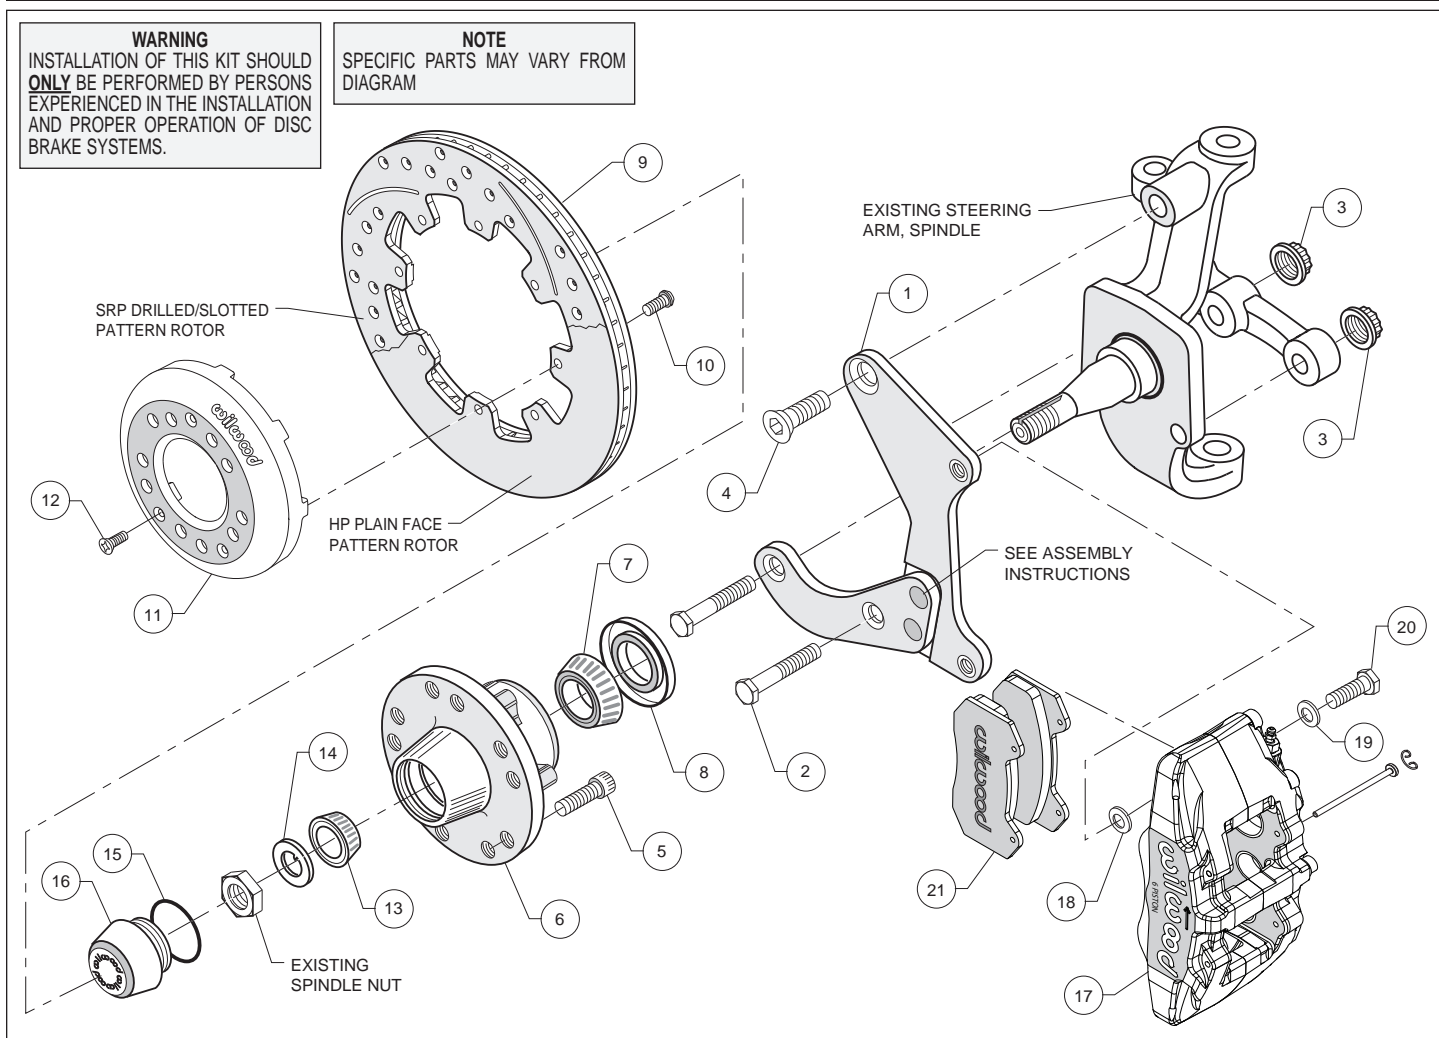

Figure 1. Typical Installation Configuration
- The spindle and caliper bracket (1) have been assembled at the factory for alignment purposes. Loosen the two bolts that secure the brackets together so that the bolts are hand tight only, this will enable the bracket assembly (1) to be adjusted to accommodate various spindle tolerances during assembly. Bolt the lower portion of the bracket assembly (1) to the backing plate face of the spindle using two bolts (2) and two lock nuts (3), hand tighten only. **NOTE:** Be sure the heads of the bracket assembly (1) insert nuts are facing outward toward the wheel. Install bolt (4) through caliper bracket (1), and into the steering arm. Torque two bolts (2) to 47 ft-lb. Apply red *Loctite*® 271 to the bolt threads (4) and torque to 140 ft-lb. Remove one of the bolts that secure the bracket assembly (1) to each other. Apply red *Loctite*® 271 to the bolt threads and reinsert into the bracket assembly. Repeat this procedure for the second bolt. Torque these two bolts to 40 ft-lb.
- Install five new wheel studs (5) into the hub (6). Torque to 77 ft-lb. **NOTE:** There are two five lug patterns in the hub (5 x 4.50 and 5 x 4.75). Make sure of the correct hole pattern for the correct wheel application before installing studs into hub.
- Pack the large inner bearing cone (7) with high temperature disc brake bearing grease (available from your local auto parts store) and install into the backside of the hub (6).
- Install the grease seal (8) by pressing into the backside of the hub (6).
- Pack the small outer bearing cone (13) with high temperature disc brake bearing grease and install into the front side of the hub (6). Lightly coat the spindle bearing surfaces with bearing grease. Slide the hub assembly (5, 6, 7, 8 and 13) onto the spindle. Secure using spindle washer (14), existing adjusting nut and nut locking device. Adjust wheel bearing pre-load per Original Equipment Manufacturer (OEM) specifications.
- Install the o-ring (15) and the dust cap (16) into the hub (6). Friction created by the o-ring (15) on the dust cap (16) keeps it from unscrewing. The O.D. of the existing spindle washer may be larger than the I.D. of the dust cap (16) which may allow the washer to contact the dust cap (16). Use the spindle washer (14) supplied with the kit instead of the stock washer.
- Orient the rotor (9) and the hat (11) as shown in Figure 1. Attach the rotor to the hat using bolts (10). Using an alternating sequence, apply red *Loctite*® 271 to the threads, and torque to 25 ft-lb.
- Slide the rotor/hat assembly (9, 10 and 11) over the wheel studs (5) in the hub (6) taking care to align the small countersunk holes in the hat (11) with the small threaded holes in the hub (6) Install three flat head socket head screws (12) through the small holes in the hat (11) and torque to 85 in-lb.
- Remove the two pad retaining pins from the caliper (17) by carefully popping out the pin retaining clips and sliding out the pins. Insert the brake pads (21) into the caliper from the bottom, Figure 1, with the friction material facing the rotor. Secure the brake pads in place with the pad retaining pins and clips. Reinstall the caliper onto the caliper mounting bracket. Apply red *Loctite*® 271 to bolt threads (20), and torque to 40 ft-lb.